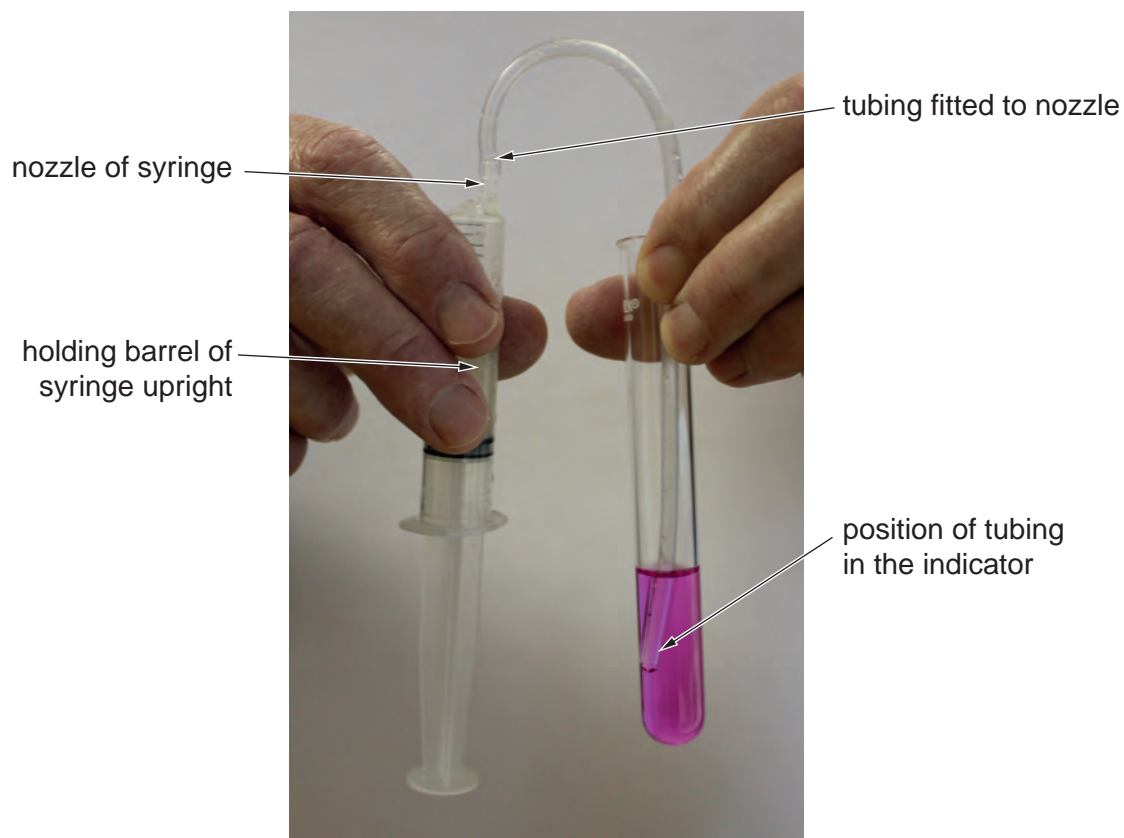
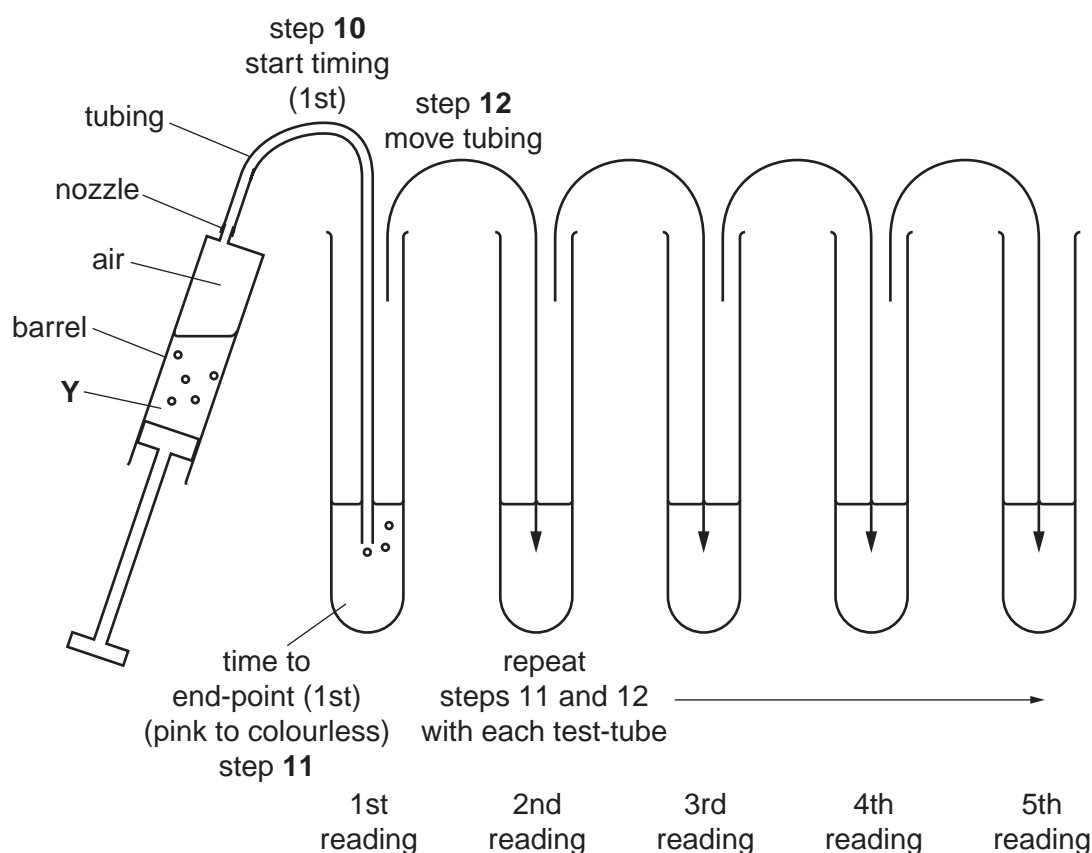

Fig. 1.2
Fig. 1.3
Fig. 1.2 shows how to use the apparatus provided.
The tubing from the syringe needs to reach into the test-tube so that it is below the surface of the indicator solution as shown in Fig. 1.2.
- (iii) Decide how you will standardise the position of the tubing in each test-tube, without cutting the tubing. You may find Fig. 1.2 helpful.
- take five readings as shown in Fig. 1.3
- take another five readings as shown in Fig. 1.3.
10. As shown in Fig. 1.2 and Fig. 1.3, put the end of the tubing into **P** in the first test-tube and start timing.